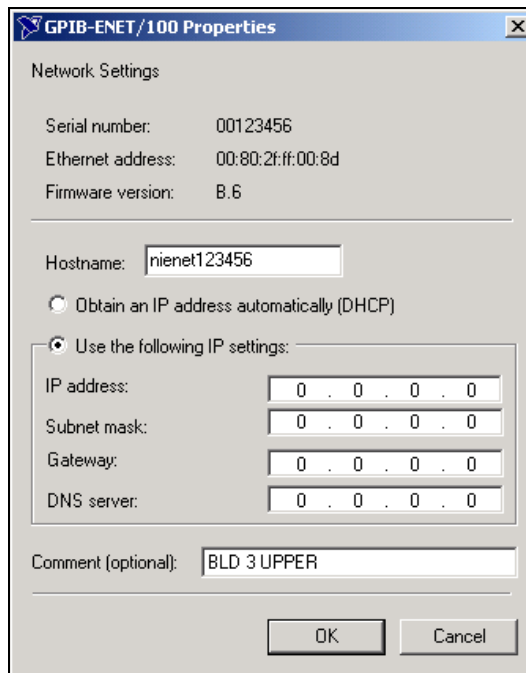

Figure 3-2. Properties Window for an Unconfigured GPIB-ENET/100
1. When you select **Properties...** from the **NI Ethernet Device Configuration** window, a **Properties** window for your GPIB-ENET/100 appears, similar to the example shown in Figure 3-2.